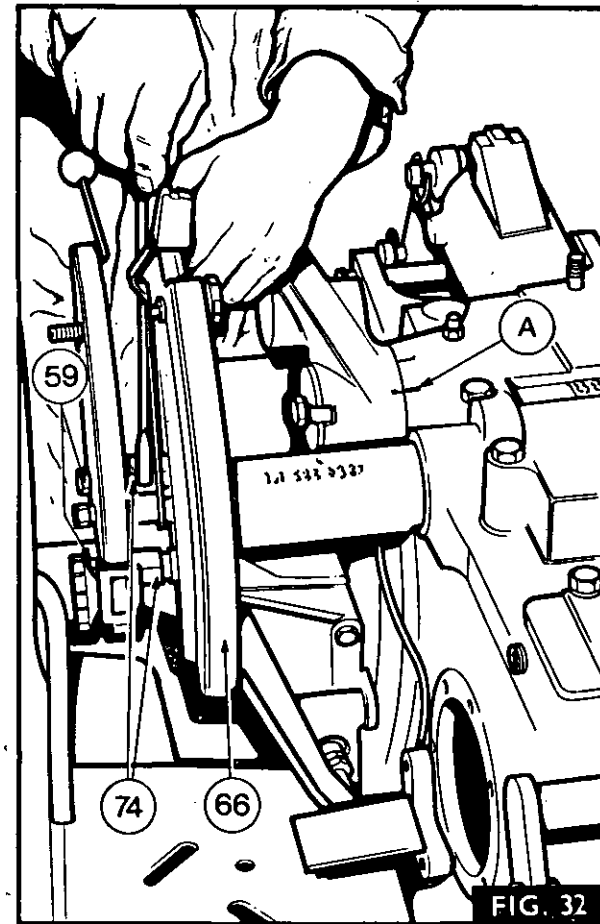

FIG. 32
4. Fig. 32. When the links are fully raised, scribe a line (A) across the top cover casting and the lift arm.
7. If the distance is incorrect, slacken the bolts (59) and spacer bolts (74) securing the quadrants and rotate the inner quadrant (66) and lever until the setting is correct.
8. Tighten the quadrant spacer bolts (74) and recheck the setting.